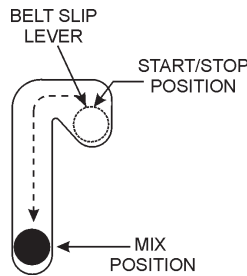

Figure 20. Belt Slip Lever (Mix Position)
- Place the belt slip lever (Figure 20) in the **mix** position. This will tilt the engine placing tension on the V-belts enabling the shaft to rotate.
- Place the **belt slip lever** in the **start/stop** position (Figure 20).